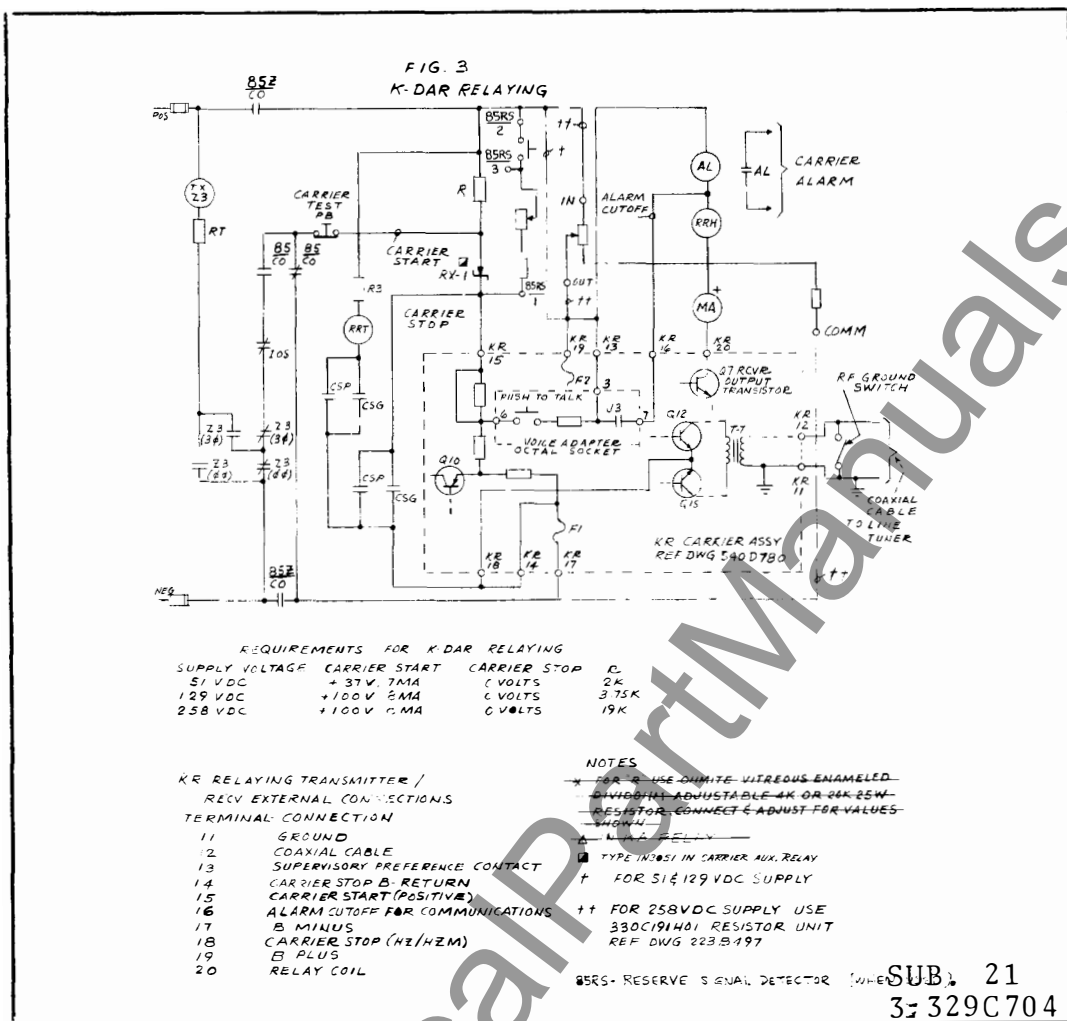

Fig. 5. Elementary K-Dar/KR Carrier Control Circuit.
2. Add "Fig. 5. Elementary K-Dar/KR Carrier Control Circuits."